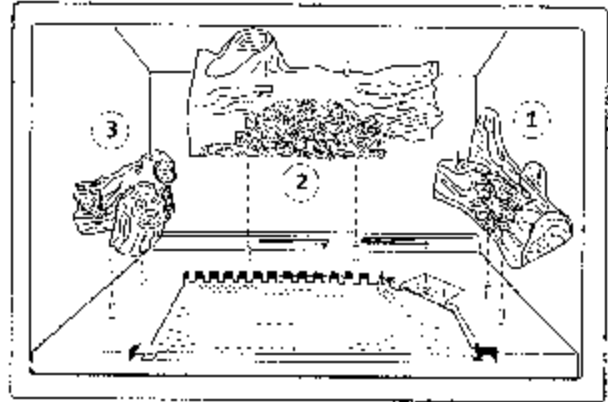
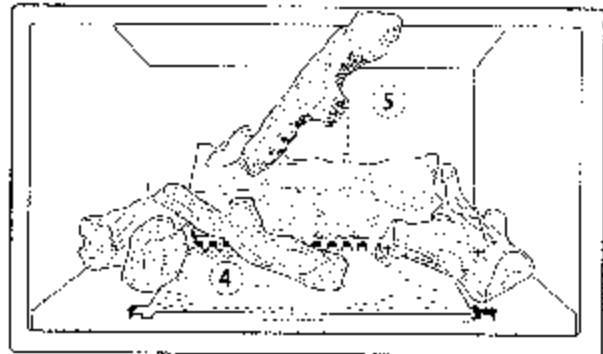

Figure 41. Install Right Log, Rear Log and Left Log in that order.
Figure 42. Install Front and Cross over logs as shown.
1. Set Right Log (1) on the pin on the right side of the Burner Skirt. Fig. 41.
2. Set Rear Log (2) on the pins at the rear of the Burner Skirt. This log should overlap the back of the Right Log.
3. Set the Left Log (3) on the pins at the left side of the Burner Skirt.
4. Set the end of Front Log (4) into the pocket at the rear of Left Log (3). Engage the other end with the pin in the middle of the Burner Plate. Fig. 42.
5. Engage the upper end of the Cross-over Log (5) with the pin in the Rear Log. Fig. 42. Set the Cross-over Log across the top of the lower end of the Front Log (4) as illustrated.